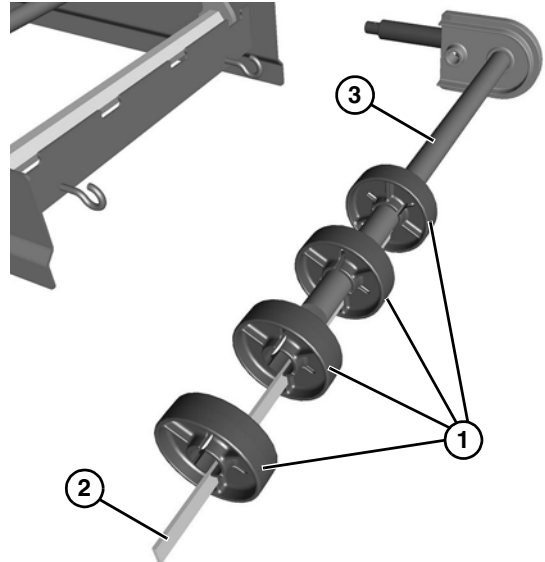

Figure 69
- Place the pucks (**Figure 69, item 1**) onto the alignment bar (**Figure 69, item 2**), and install onto the idler shaft (**Figure 69, item 3**).
- Slide all the idler pucks (**Figure 69, item 1**) along with alignment bar onto idler shaft (**Figure 69, item 3**).